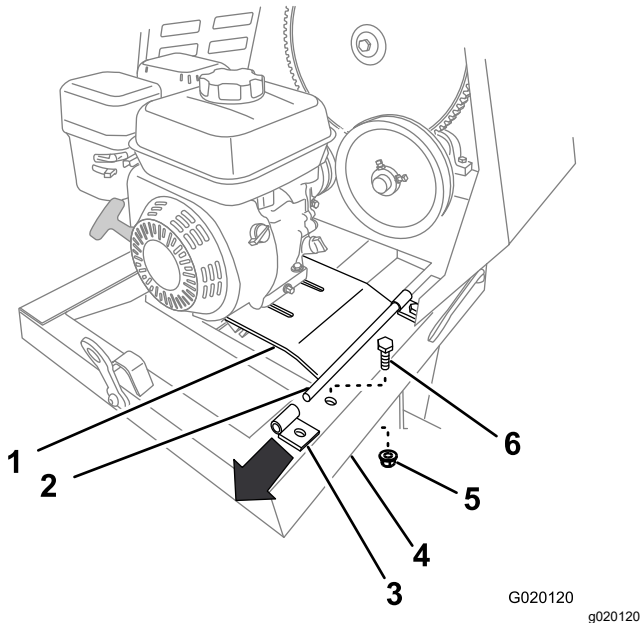

Figure 50
- Remove the bolt and nut that secure the rear bracket for the engine deck hinge to the frame of the machine (Figure 50).
- Secure the rear bracket to the frame of the machine using the bolt and nut (Figure 50) removed in step 8 of Removing the Engine (page 35).
- Lift up the rear edge of the engine deck and remove the hinge bracket (Figure 50).